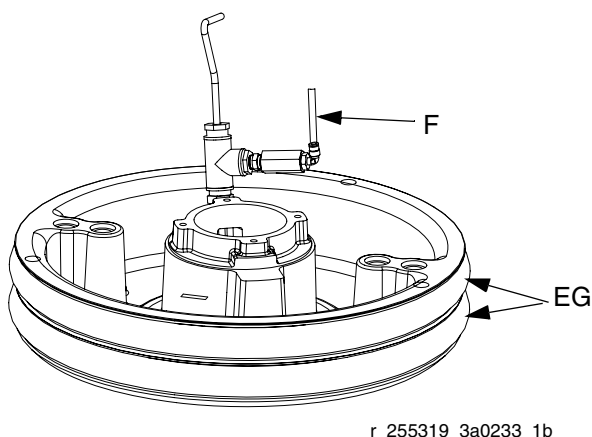

FIG. 12
See FIG. 12. If the platen does not come out of the pail easily when the pump is being raised, the air assist tube (F), or check valve may be plugged. A plugged valve prevents air from reaching the underside of the plate to assist in raising it from the pail.
2. Clear air assist tube (F) in platen. Clean all parts of valve and reassemble.
3. Remove bleed stick (EK) from platen. Push bleed stick through bleed relieve ports to remove material residue.